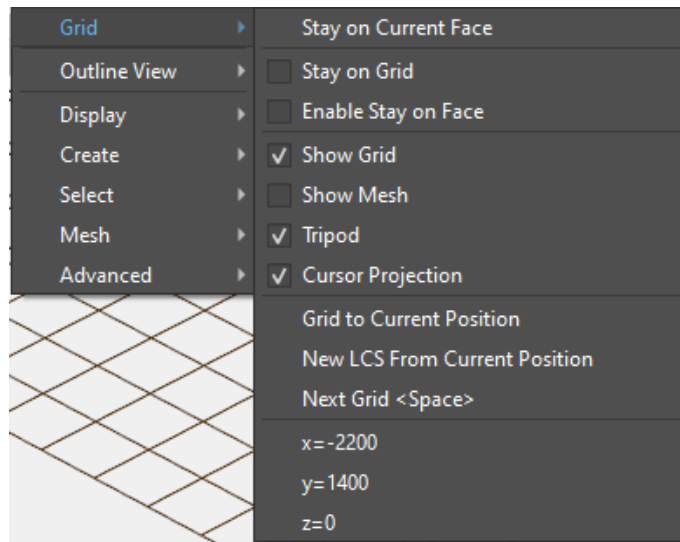

Figure 12.10.: EMPIRE XPU™ Context Menu (right click in workspace)
- More grid options can be set in the **Context Menu** (Figure 12.10) (click right mouse button in workspace)
- Move cursor to object face, right click: Context menu - Grid - **New LCS From Face Position** (Figure 12.10)
- Move cursor to grid, right click: Context menu - **New LCS From Current Position** (Figure 12.10)